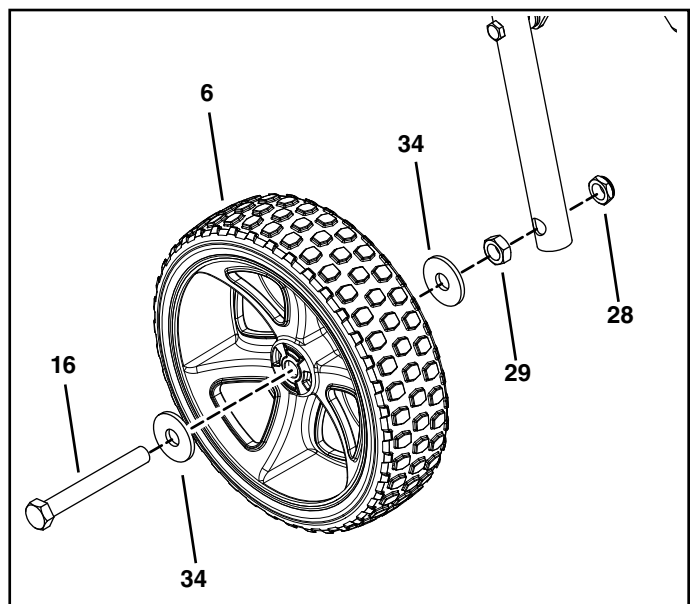

FIGURE 7
- Assemble a 1/2" x 4" hex bolt (16), a .531 washer (34), a wheel (6), a .531 washer (34), and a .5" jam nut (29). **Finger tighten only.**
- Attach the wheel assembly to the transport tube using a 1/2" nylock jam nut (28). Repeat for the other side. See figure 7.